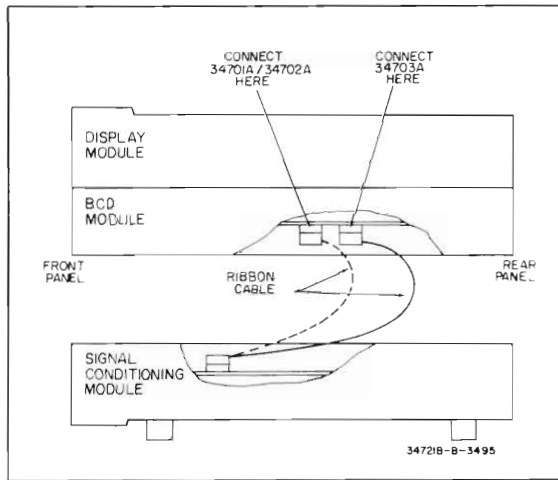

Figure 2-2. Routing of the Ribbon Cable.
d. Connect the ribbon cable supplied with the instrument to the appropriate connector of the Model 34721B (see Figure 2-2). Connect the other end of the cable to the 14 pin IC connector on the bottom module. The outer brown wire of the cable should be nearest the case of the instrument.